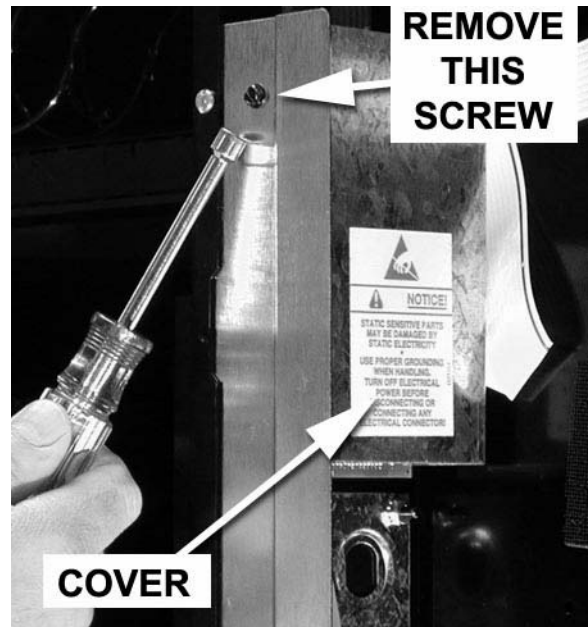

Figure 11
1. Remove one screw from the side of the monetary door (figure 11). Save this screw for later use.